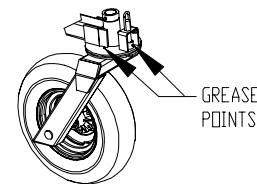

Figure 3
5. Front gage wheel pivot points (figure 3).